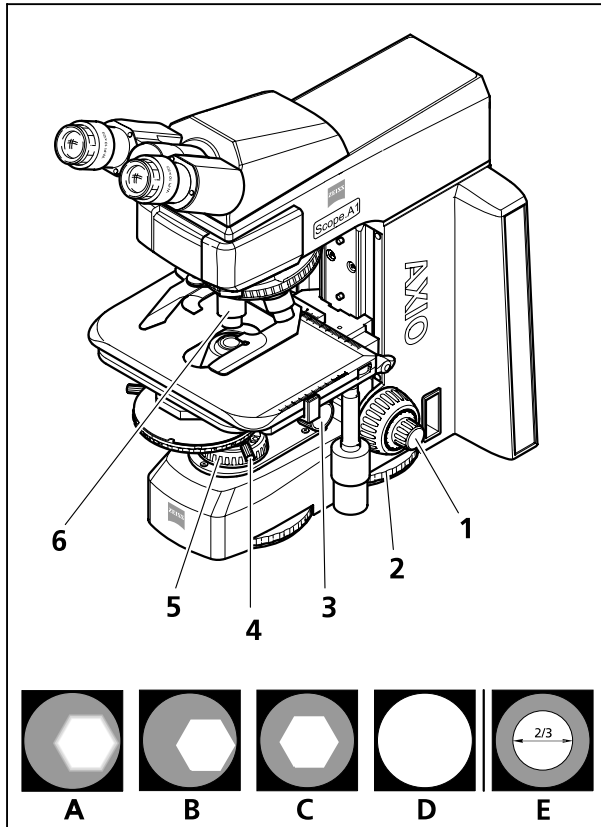
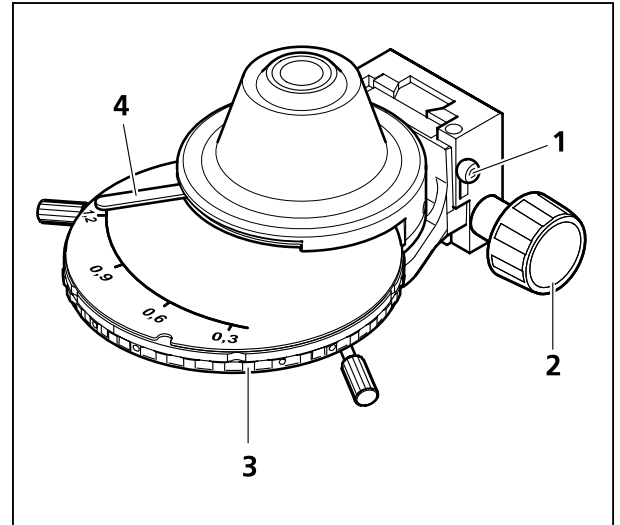

Fig. 4-1 Microscope adjustment in transmitted light/bright-field
Fig. 4-2 Adjusting the vertical stop on the condenser carrier
(3) Adjusting the transmitted light/bright-field according to KÖHLER
- Adjust image brightness with light intensity control (Fig. 4-1/2) on microscope stand.
- Bring front lens on condenser (if in use) into place (in objectives $\geq 10x$) and turn the gear knob for vertical adjustment of the condenser (Fig. 4-1/3 and Fig. 4-2/2) to the top stop. Make sure the stop is adjusted in a way to prevent the condenser from lifting out the sample (adjusting the condenser stop, chapter 4.1.1 (4)).
- On condensers with revolver/modulator disks: turn the knurled ring (Fig. 4-2/3) to position **H** (bright-field).
- Bring objective 10x in place on nosepiece (Fig. 4-1/6) and focus sample with gear knob (Fig. 4-1/1).
- Close field diaphragm (Fig. 4-1/5) enough to make it visible in field of view (even if blurred) (Fig. 4-1/A).
- Lower condenser with gear knob for vertical adjustment until edge of field diaphragm appears sharp (Fig. 4-1/B).
- Center the field diaphragm image with both centering screws (Fig. 4-1/**4**) on the condenser carrier (Fig. 4-1/**C**). Open the field diaphragm enough to make the edge of the diaphragm disappear from the field of view (Fig. 4-1/**D**).
- In order to adjust the aperture (contrast), take an eyepiece from the tube barrel. Looking through the barrel adjust the aperture with the adjusting lever (Fig. 4-2/**4**) to the size of approx. $2/3$... $4/5$ of the diameter of the objective exit pupil (Fig. 4-1/**E**). In most cases this aperture gives the best contrast at almost full resolution and is thus the best compromise for the human eye.
(4) Adjusting the vertical stop on the condenser carrier
- Loosen the setscrew (Fig. 4-2/1) on the vertical stop with the ball-head screwdriver SW 3.
- Close the field diaphragm and adjust the condenser vertically (Fig. 4-2/2) until you get a sharp image.
- Tighten the setscrew (Fig. 4-2/1) on the vertical stop.